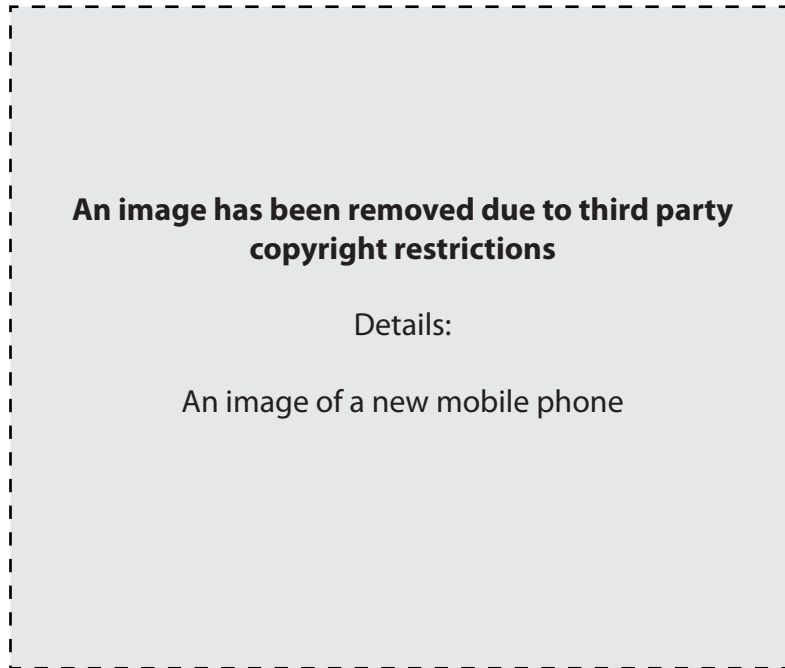

Fig. 6
- 4 Fig. 6 shows a design for a new mobile telephone.